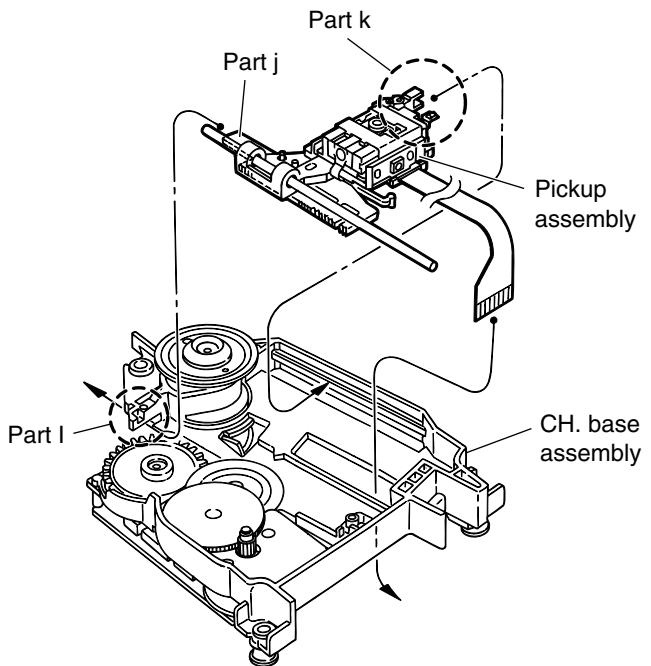

Fig. 15
■ Reinstalling the pickup assembly (See Figs. 15 and 16)